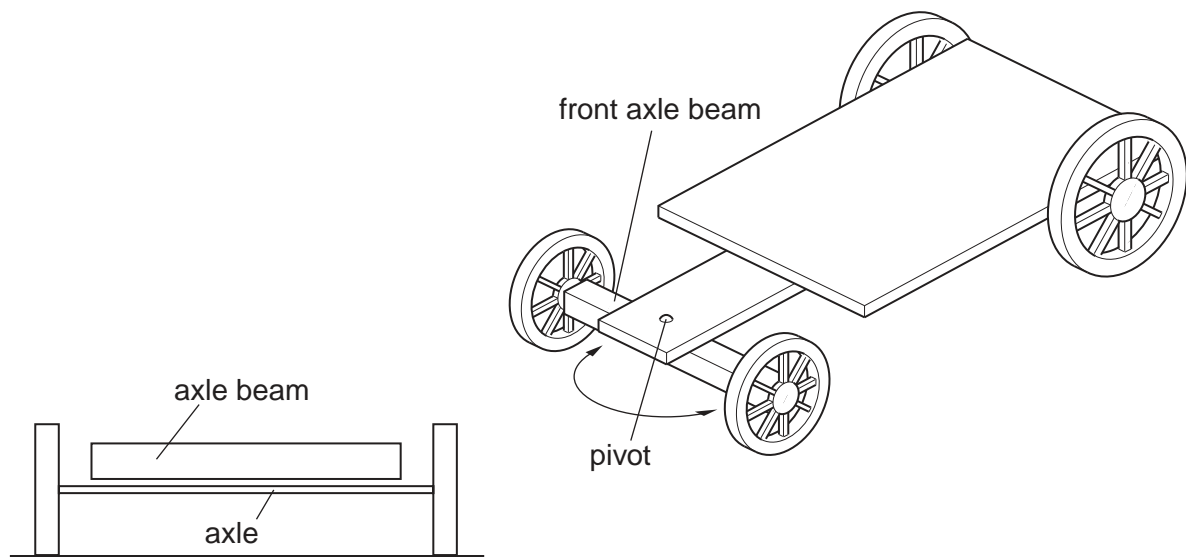

Fig. 8
- 7 Fig. 8 shows an incomplete idea for a child's wooden go-cart. It is to be steered by pivoting the front axle beam as shown. The wheels have a 12 mm hole in their centre.